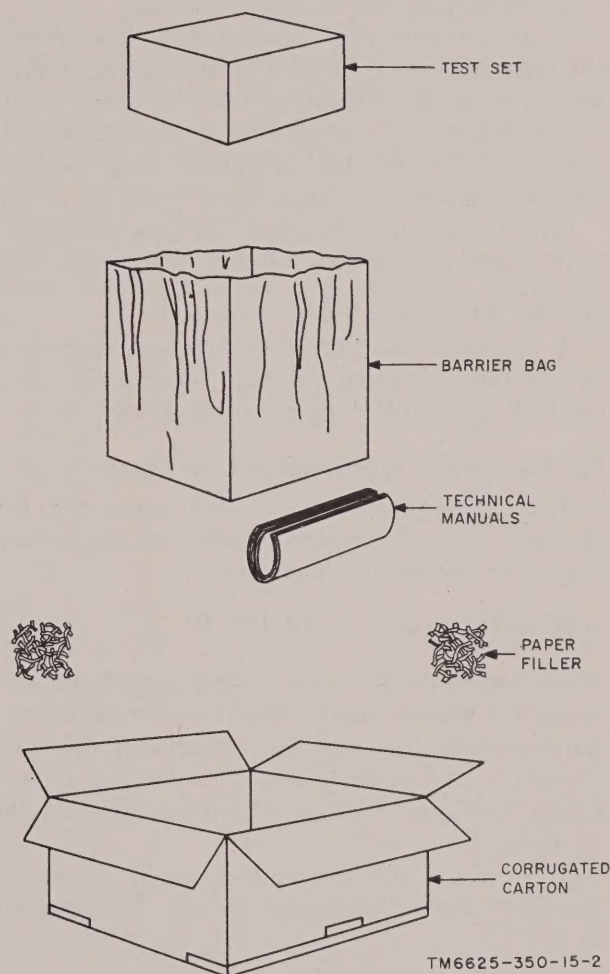

Figure 2. Packaging.
a. Packaging Data. When packed for shipment, the TS-1202/U and technical manuals are placed in a corrugated carton. The shipping box and its contents are shown in figure 2. The external dimensions of the carton are approximately 6 inches high, 8 inches deep, and 13 inches wide.
- (1) Open the corrugated carton.
- (2) Remove the moistureproof barrier bag and technical manuals from the corrugated carton.
- (3) Open the moistureproof barrier bag.
- (4) Remove the TS-1202/U.